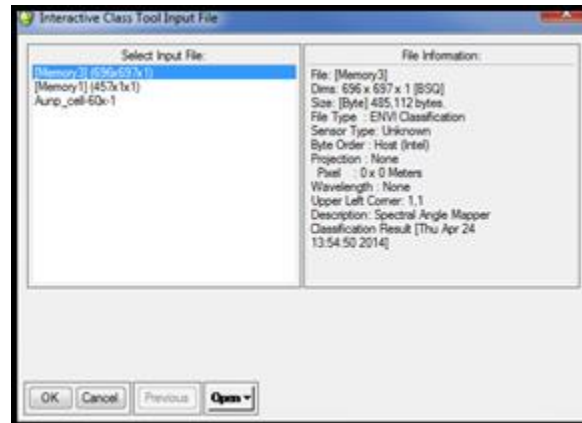

Figure 5.7a. Selecting image to overlay
- The Interactive Class Tool Input File dialogue box opens (Figure 5.7a).